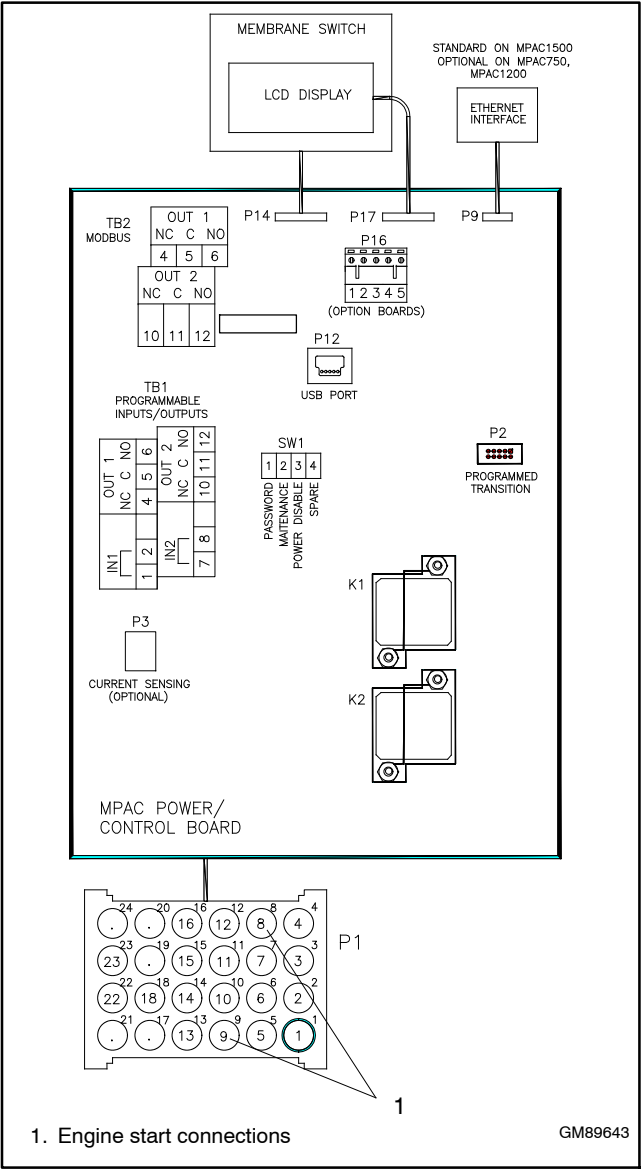

Figure 6-12 Connector P1 Engine Start Connections, Models KSS/KSP
- a. Models KSS/KSP: Pins 8 and 9 of connector P1. See Figure 6-12.